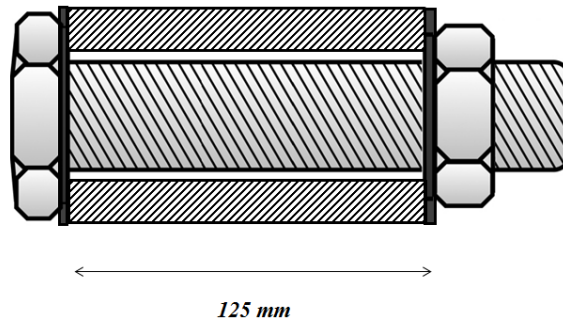

Figure Q2
2. An assembly that consists of a bolt and a sleeve as shown in Figure Q2 is tightened to prevent movement with no pre-stress at a temperature of 25°C. The length of the assembly is 125 mm. The bolt is made from steel with a modulus of elasticity of 200×10^9 Pa and has a cross-sectional area of 400 mm^2 ; the sleeve is made from aluminium with a modulus of elasticity of 73.1×10^9 Pa and has a cross-sectional area of 600 mm^2 .